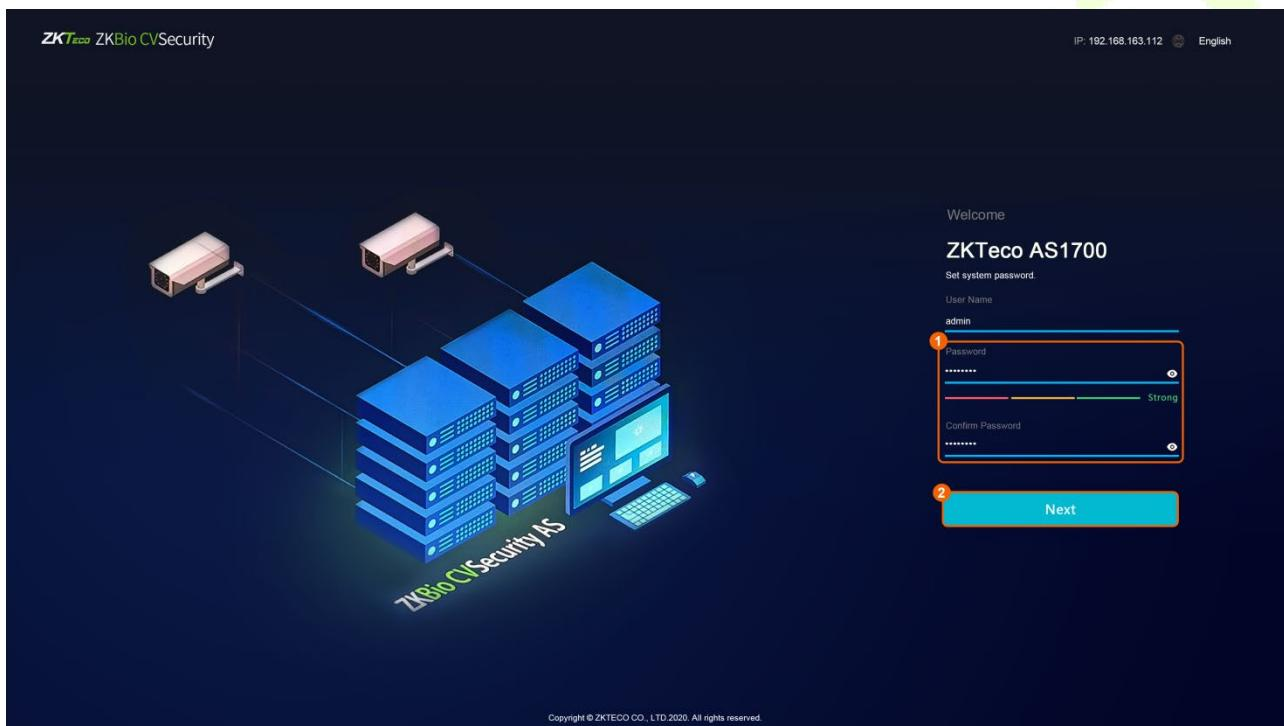

Figure 3-2 To set the password of the **admin** user of the service system.
- Set the password of the **admin** user of the service system, as shown in the Figure 3-2.